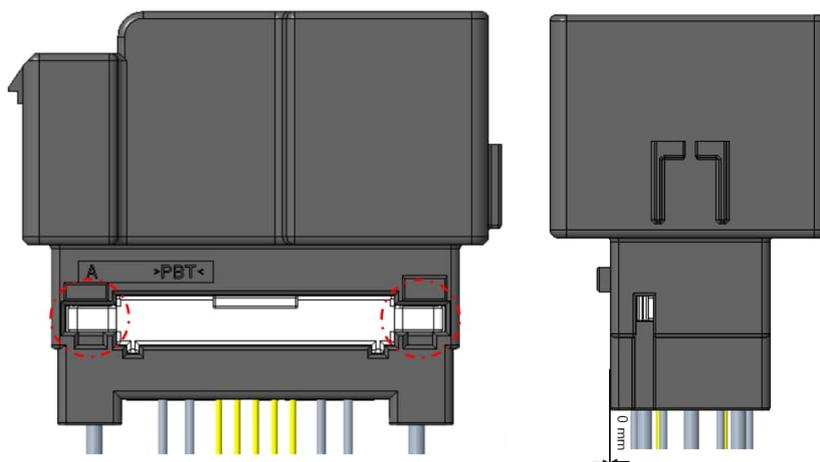

Fig. 6
(1) After all cavities are filled by Contacts properly, push TPA to inside direction to complete Final Lock condition as shown in Fig. 6.